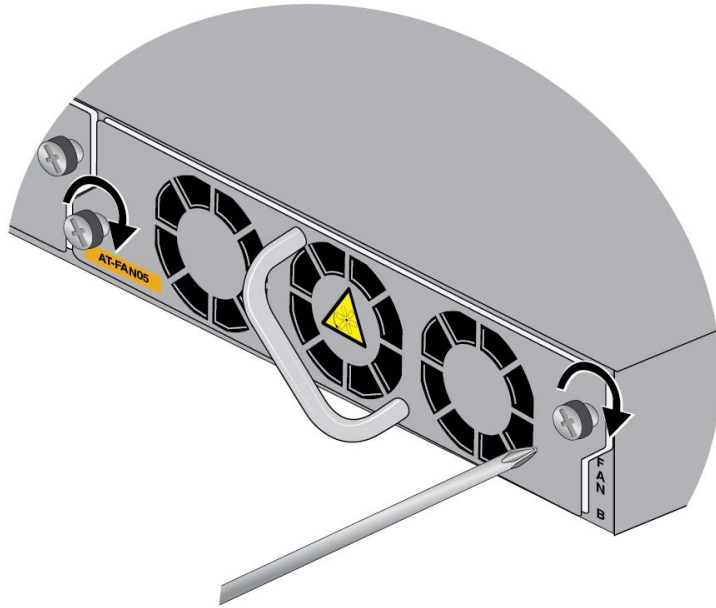

Figure 162. Tightening the Two Captive Screws on the FAN05 Module
4. Tighten the two screws on the module to secure it to the switch. Refer to Figure 162.